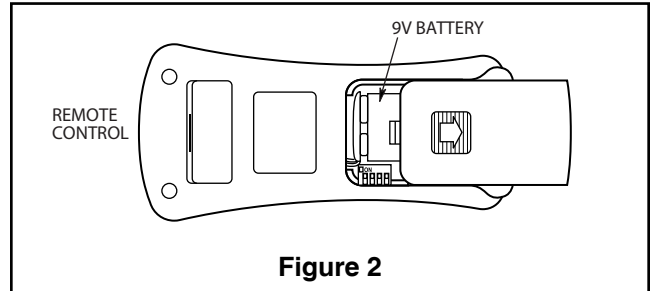

Figure 2
- ☐ 2. To make fan operational, install 9-volt battery in hand-held remote transmitter, (if not using for long periods of time, remove battery to prevent damage to transmitter). Store the remote away from excessive heat or humidity (Figure 2).